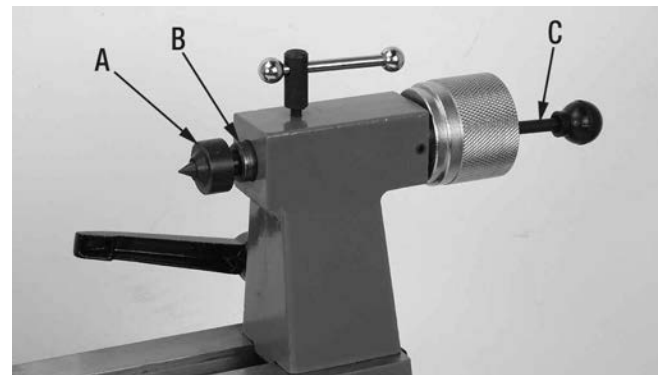

FIGURE 6
The live center (A) Fig.6 supplied with your wood lathe is designed to be fitted into the tapered tailstock quill (B). The live center can be fitted by hand but first make sure the live center shank and quill hole are perfectly clean. It is recommended to use a solvent and a clean cloth to clean the shank and spindle hole.
To remove the live center from the tailstock quill, a knock-out bar (C) Fig.6 is supplied for this purpose. Insert the knock out bar through the outboard side of the quill as shown and knock out the live center. Hold the live center before knocking it out to prevent it from dropping.